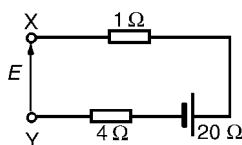

Figure 13.94
- 11 The open-circuit voltage E across terminals XY of Fig. 13.94 is: